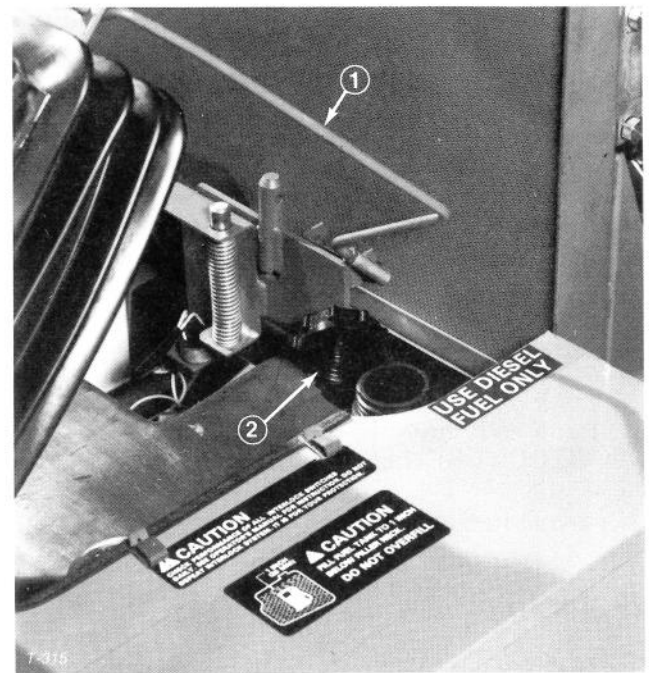

Figure 19
1. Tip seat forward and prop it with the support rod so it cannot fall accidentally (Fig. 19) Using a clean rag, clean area around fuel tank cap.
2. Remove cap from the fuel tank (Fig. 19) and fill the 8-1/2 gallon (30 L) tank to within 1 inch (25 mm) from the top with diesel fuel. Install fuel tank cap tightly after filling tank.